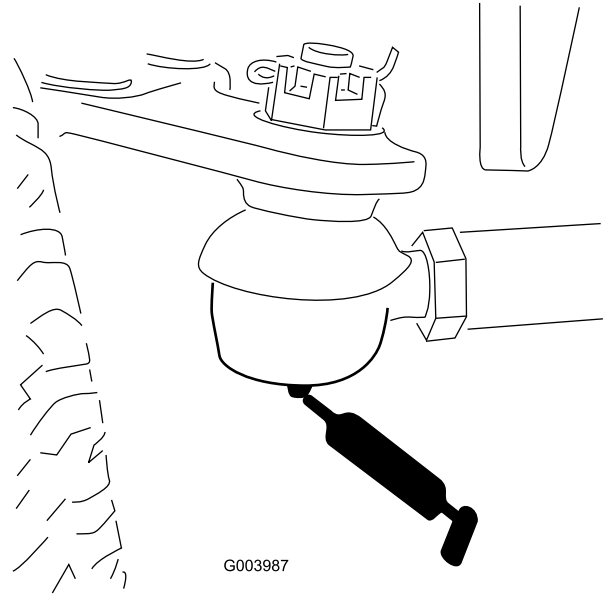

Figure 78
- Rear axle tie rod (2) (Figure 78)